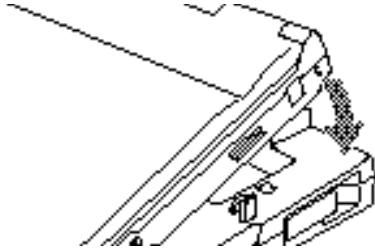

Figure 4-5 Locking Your Notebook in an Enhancement Unit
6. Push the rear of your notebook firmly down onto the Enhancement Unit until it locks in place. (Figure 4-5.)